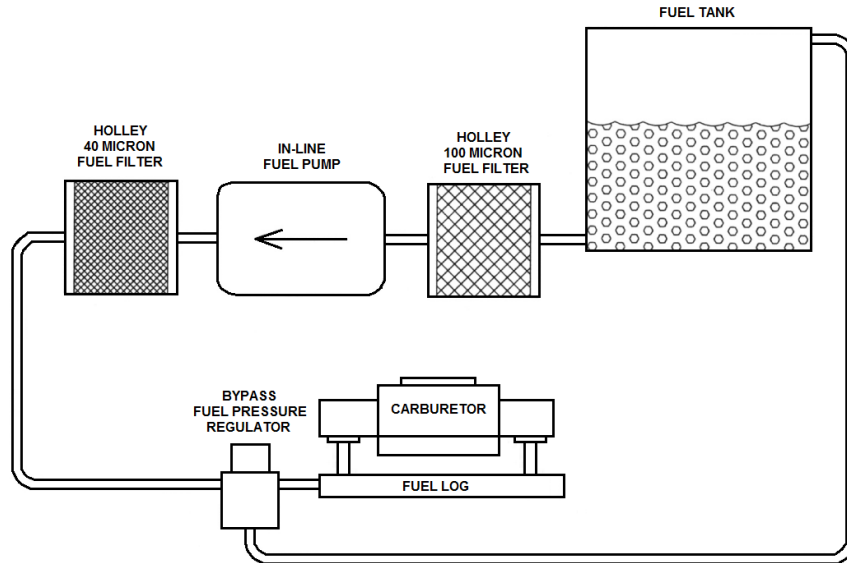
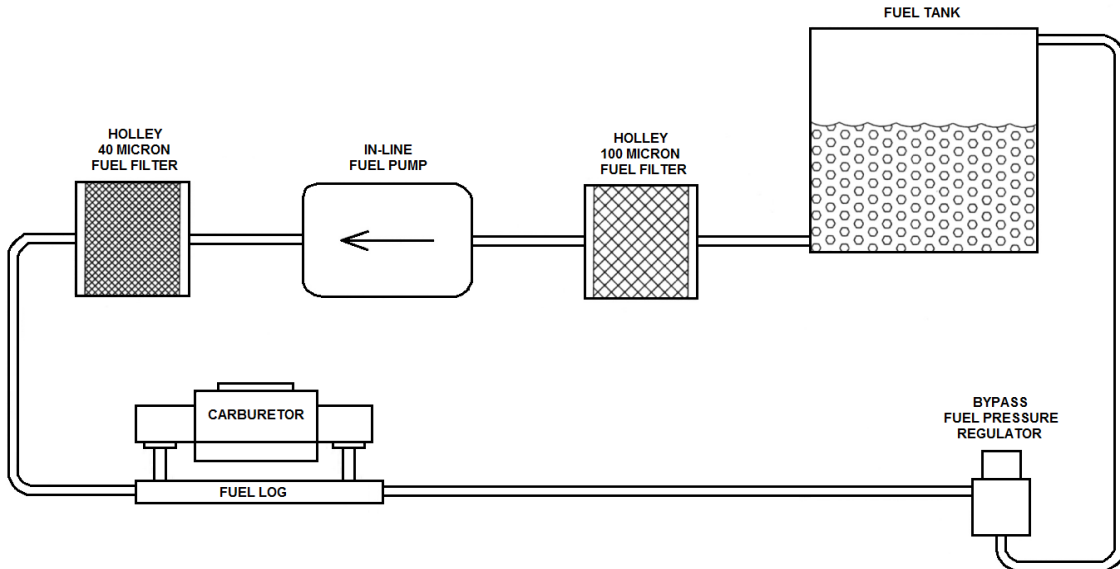
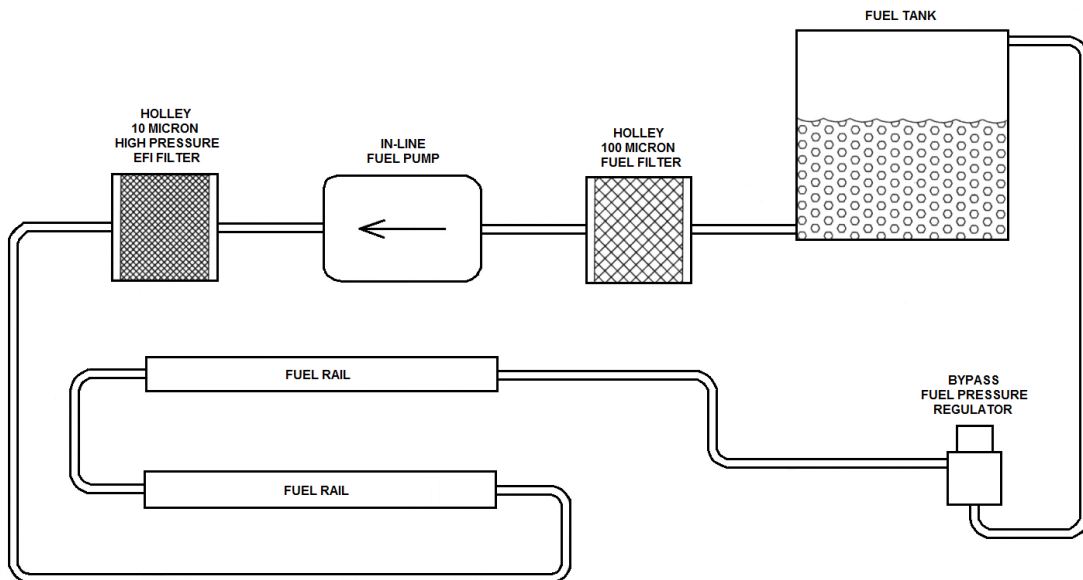

Figure 2a (Carburetor Only)
Figure 2b (Carburetor Only)
Figure 2c (EFI Only)
4. Connect the outlets of the regulator to the carburetor (if the regulator is installed before the carburetor **per Figure 2a**). If the regulator is installed after the carburetor (**Figure 2b**) or EFI (**Figure 2c**), the outlet needs to be plugged.